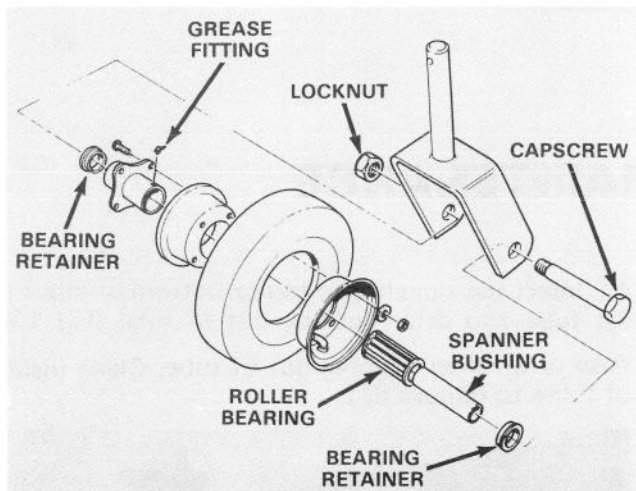

Figure 11
1. Remove locknut from capscrew holding castor wheel assembly between castor fork (Fig. 11). Grasp castor wheel and slide capscrew out of fork.
Note: Account for the two bearing retainers (Fig. 11).
2. Tip wheel to the side and allow roller bearing and spanner bushing to fall out (Fig. 11).
6. Pump more grease through grease fitting on wheel (Fig. 11) until bearing is greased thoroughly.